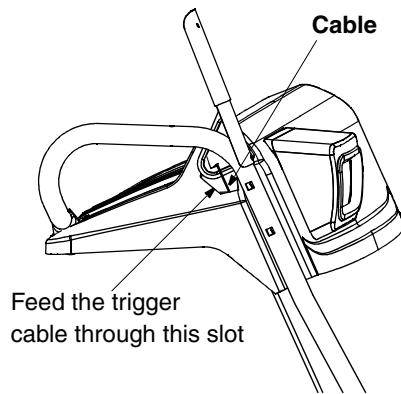

Figure 12
- Feed the trigger cable up through the outer side of the slot in the handle panel. See Figure 12. *Do not feed the cable through the same side of the slot as the Z fitting.*